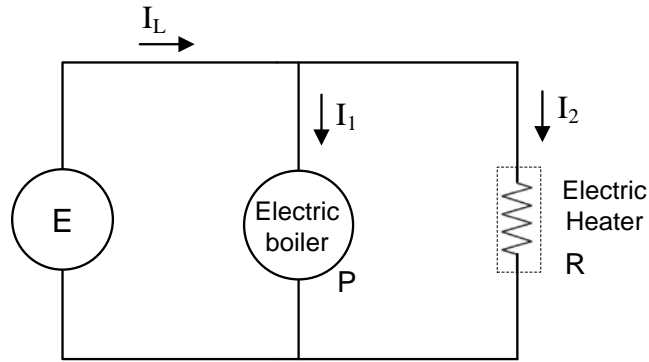

Figure 1.2
- (b) A single phase AC source with voltage  $E = 1.5 \text{ kV}$  delivers power to an electric boiler and an electric heater as shown in Figure 1.2. The power of the boiler,  $P$  is 120 kW while the resistance of the heater,  $R$  is 80 Ω. If the system uses base voltage,  $E_B = 500 \text{ V}$  and base power,  $P_B = 10 \text{ kW}$ , calculate the following: